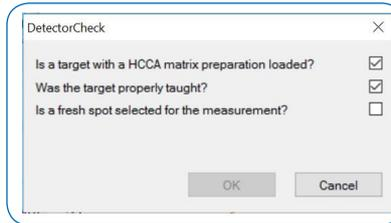

Figure 4.8 Detector Check
- A new window will open with a check list (see Figure 4.8)